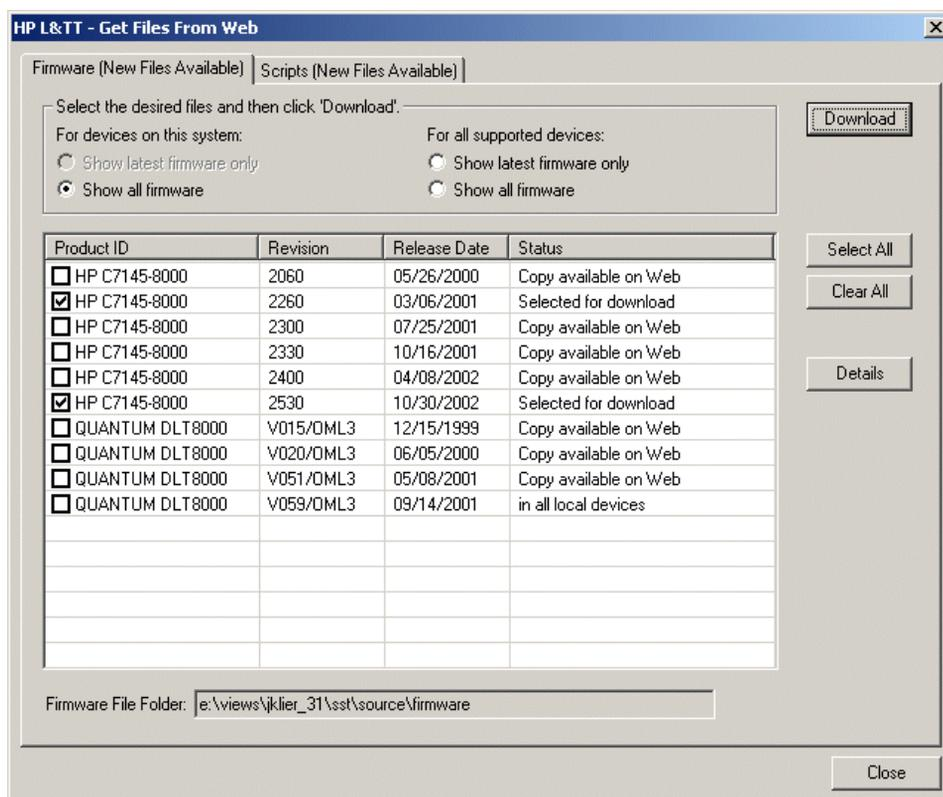

Figure 12: Get Files from Web dialog box—firmware tab
- The **Get Files from Web** dialog box is displayed. Click the **Firmware (New Files Available)** tab if it is not already selected. Figure 12 shows the **Get Files from Web** dialog box for firmware.